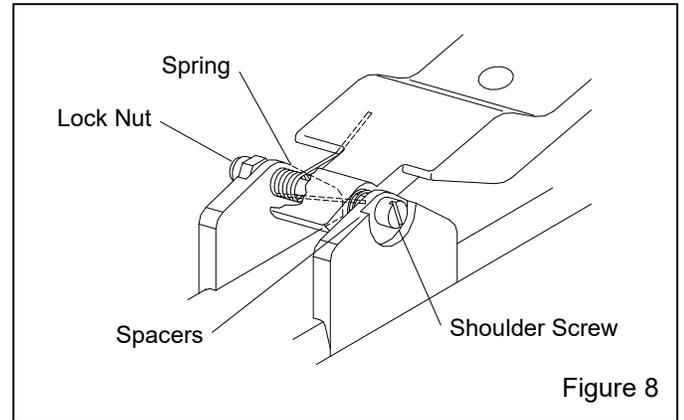

Figure 8
4.5 Control Lever Replacement – Figure 8
4.5.1 Remove the lock nut from the shoulder screw. Before removing the screw, note the positions of the spacers and spring as shown in Figure 8. The bent end of the spring is against the control lever, facing up. The straight end is against the body, facing down. The spring and spacers must be placed correctly when reinstalling the handle.